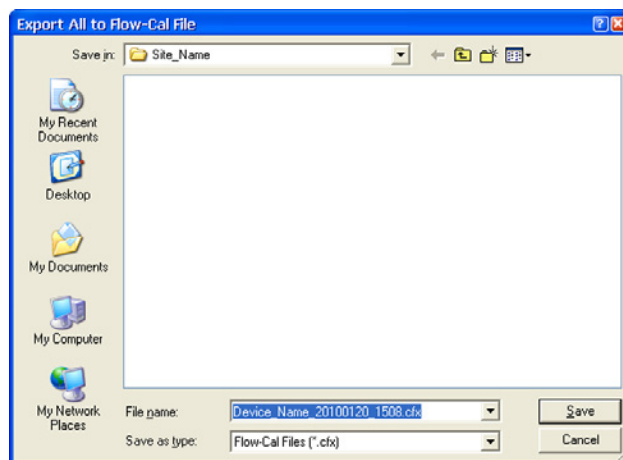

Figure 14.34
2. An Export All to Flow-Cal File or Export All to PGAS Files window will appear (Figure 14.34, page 212). To change the file path and/or file name from the defaults listed below, browse to the desired file path and/or type the desired entry in the field provided. See Log Directory and Filenames, page A-22 for more information.